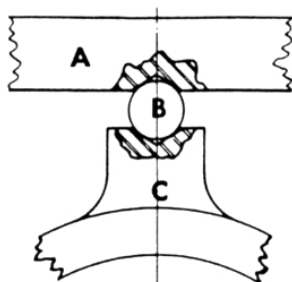

Figure 12:
Next, as shown in Figure 12, place a hardened alloy steel loading ball (B) of the proper size and load rating in the ball seat of the reference standard (C) and lower the upper yoke platen (A) until the ball seat of the platen rests on the ball.